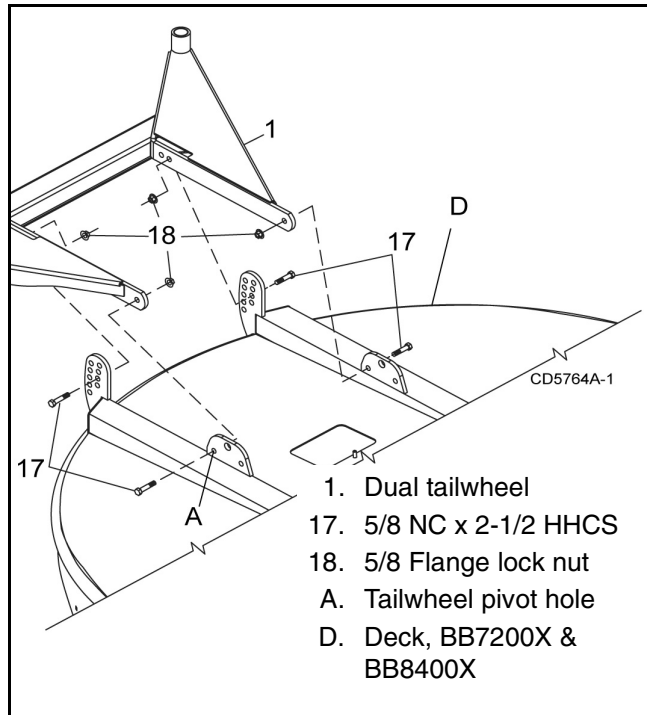

Figure 35. Dual Tailwheel Installation
1. Attach dual tailwheel (1) to main frame (D) using position A and desired height location as shown in Figure 35.
2. Secure with cap screws (17) and hex nuts (18).